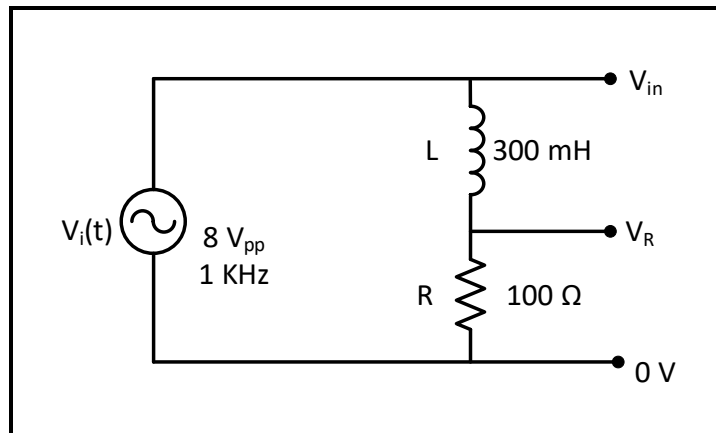

Figure 9.12
2. Repeat the same procedure in step 1 above for the circuit shown in Figure 9.12.
2. Connect the circuit in Figure 9.12, set V_{in} to sinusoidal voltage at $8 V_{pp}$ and $f = 1 \text{ KHz}$.